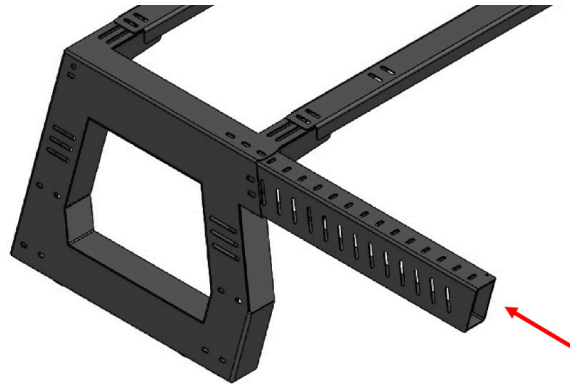

Figure 3
3. With assistance, lift the front assembly onto the bed of your truck and position it as desired. Take the two beam assemblies (22462 and 22463) and slide them into the front assembly. Figure 3